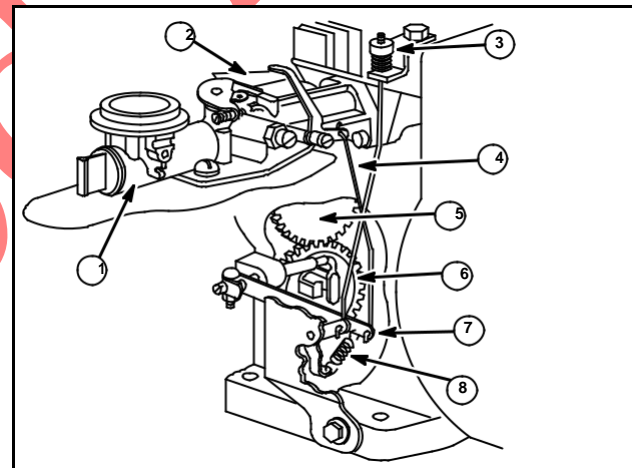

Fig. 12
Typical governor components on horizontal shaft models are illustrated in Fig. 12. Carburetor (1)
- Throttle link (2)
- Manual governor control (3)
- Governor link (4)
- Cam gear (5)
- Governor gear (6)
- Governor lever (7)
- Governor spring (8)